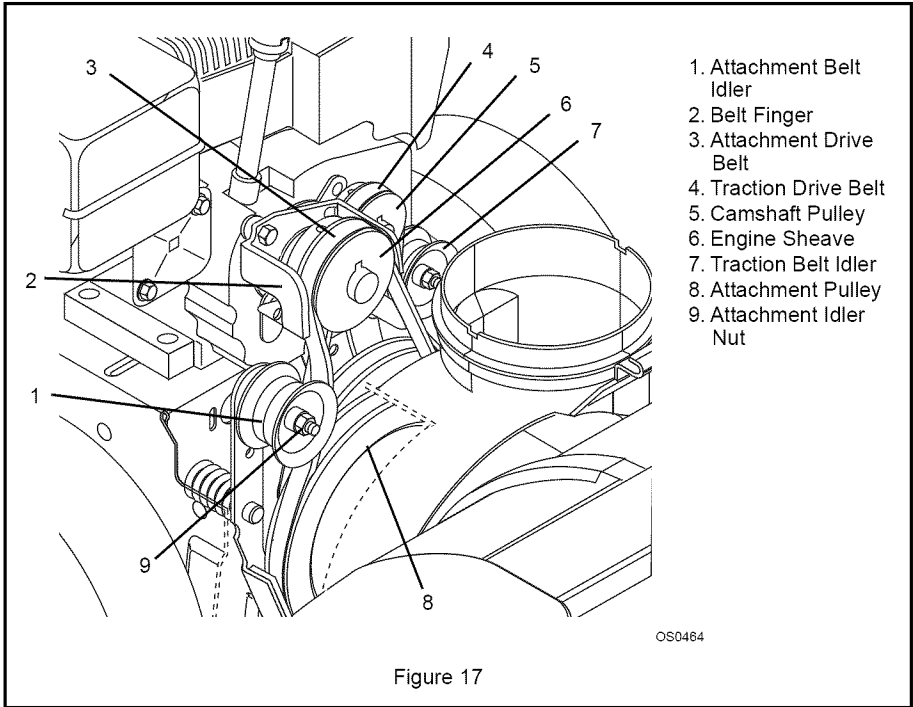

Figure 17
5. Remove belt finger by removing cap screws mounting belt finger to engine (Figure 17).
IMPORTANT: BELT FINGER MUST BE between 1/16 to 1/8 in. (1.6–3 mm) from belt with attachment clutch engaged or belt grabbing may occur causing impeller to rotate while attachment clutch is disengaged (Figure 17).
2. Check belt alignment (Figure 17).
- a. Center the upper cable adjuster on the mounting bracket, if necessary (Figure 17).
- a. Loosen idler nut (Figure 17).